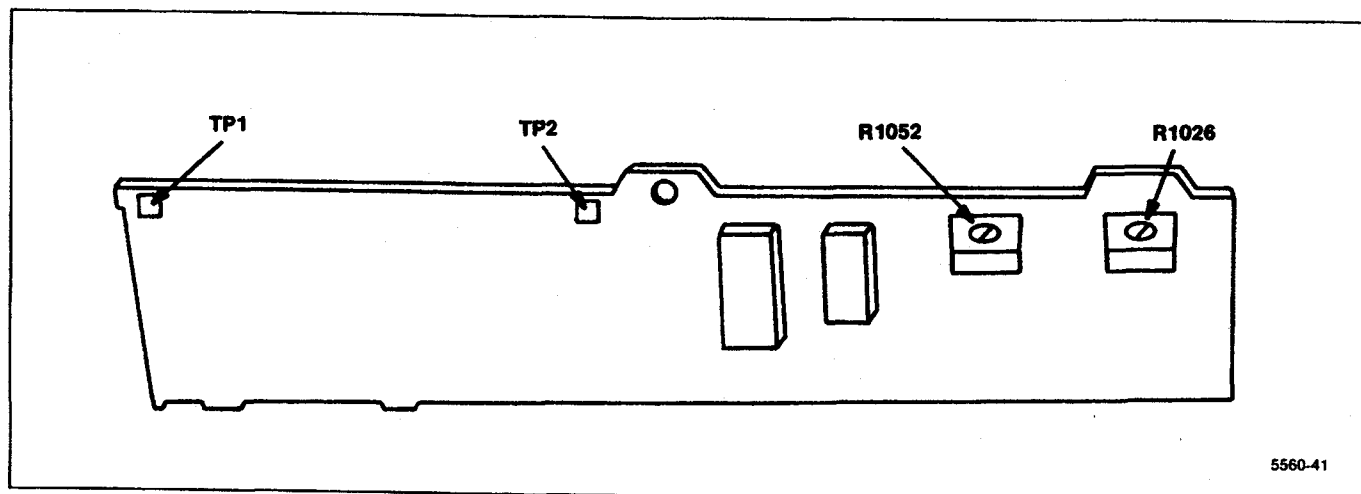

Figure 5-9. Sweep board timing adjustment and test point locations.
d. Adjust Sweep Timing, R1062 (see Figure 5-9) for 1 marker per division. (Use Horizontal Position adjustment to align markers with graticule lines.)